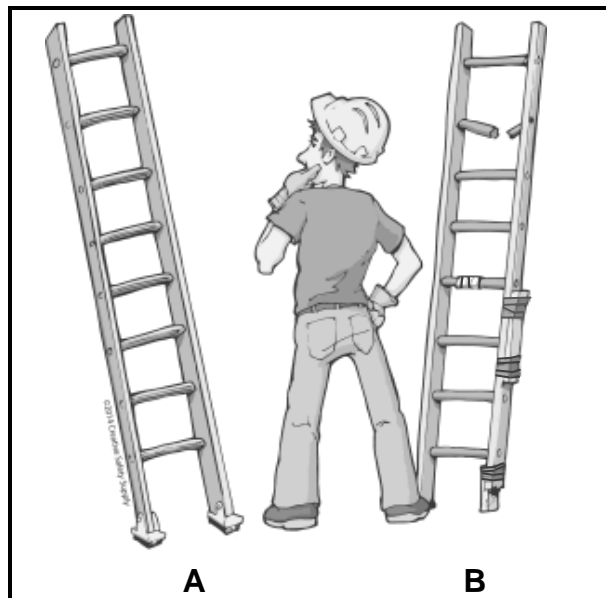

FIGURE 1.2
- 1.2 FIGURE 1.2 below shows equipment that is used on a construction site.
- 1.2.2 Deduce from FIGURE 1.2 the safest option to use, **A** or **B**. Motivate your answer. (2)
- 1.2.3 Explain the purpose of the equipment in FIGURE 1.2. (1)